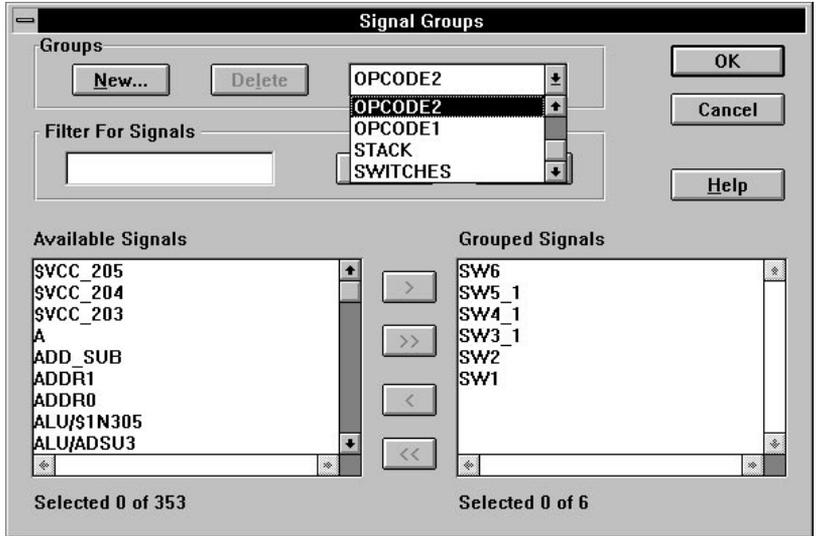

Figure 10-10 Signals Groups Dialog Box
The Signal Groups dialog box is displayed as shown in Figure 10-10.
6. Use the data in Table 10-9 to create groups that reflect the state of the switches. Each time you create a group, it is added to the pull-down menu in the Groups group box, as shown in Figure 10-10.